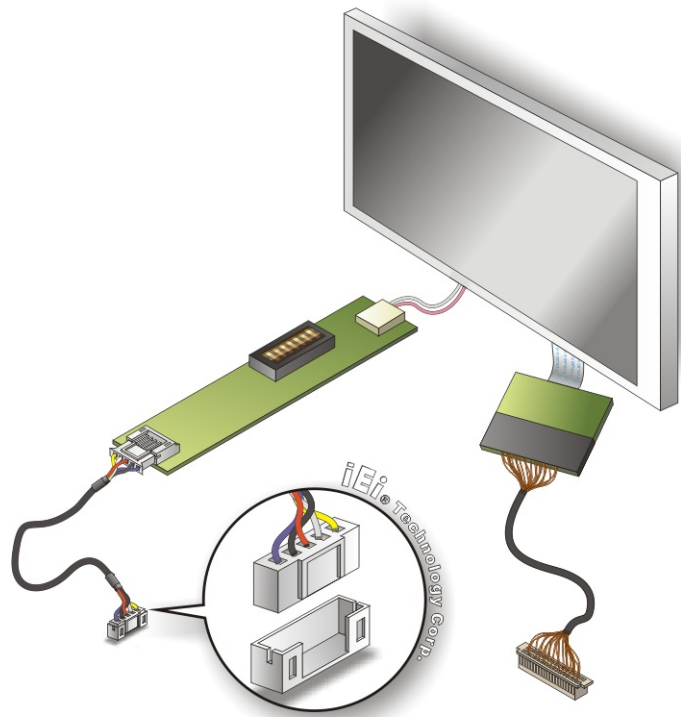

Figure 4-9: Backlight Inverter Connection
- Step 4:** **Connect backlight connector.** Connect the backlight connector to the driver TFT LCD PCB as shown in **Figure 4-9**. When inserting the cable connector, make sure the pins are properly aligned.